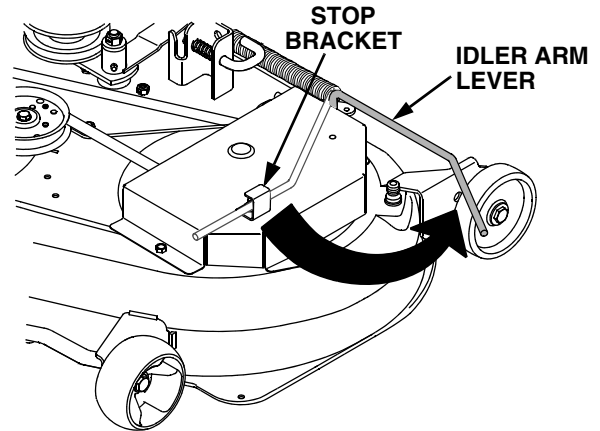

Figure 2-8
- Disengage the deck idler arm lever from its stop bracket and release the spring tension by rotating the lever out and rearward (See Figure 2-8).